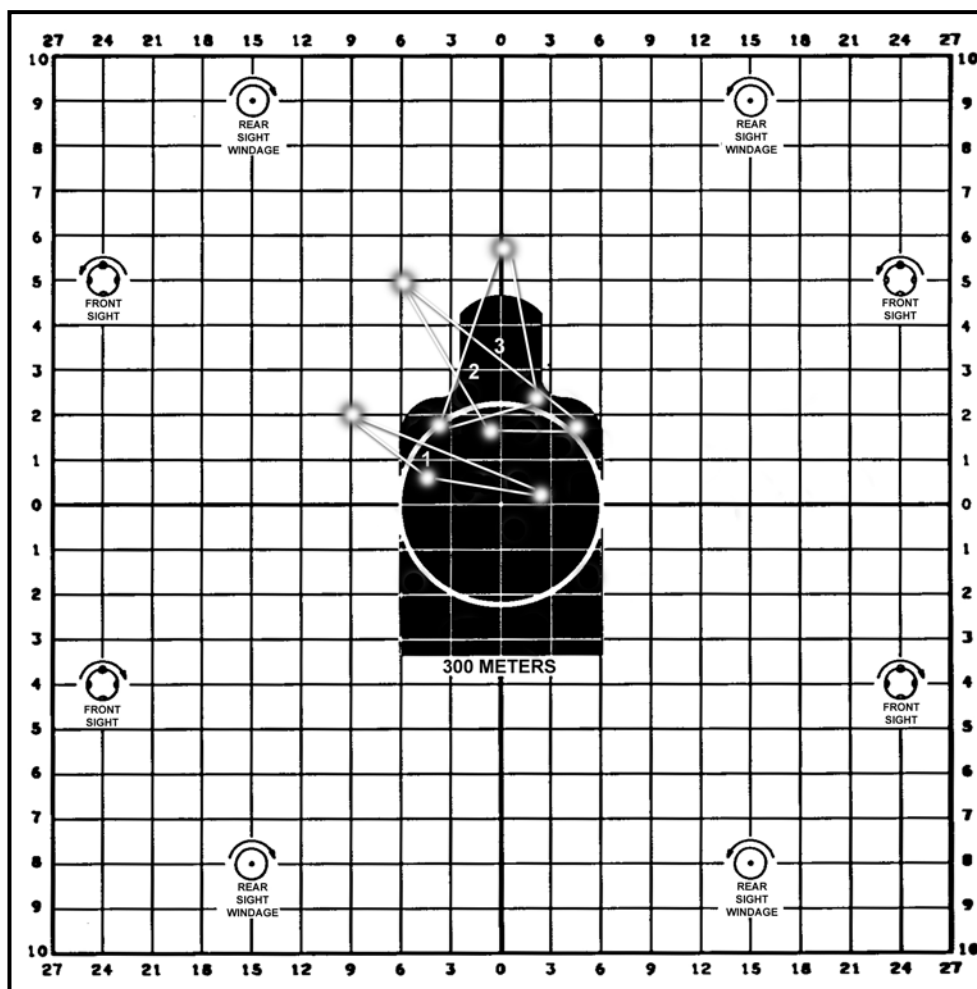

Figure 5-15. Shot groups with improper vertical placement.
(5) *Shot Groups with Improper Vertical Placement.* The shot groups shown in Figure 5-15, when viewed as nine shots, reflect proper horizontal placement of shots but unsatisfactory vertical dispersion. This indicates a failure to vertically aim at target center of mass for each shot. The soldier's aiming procedure is checked along with other marksmanship fundamentals.